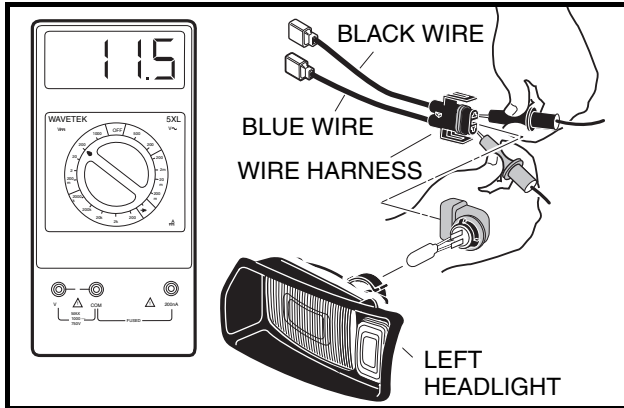

Figure 11-45 Check Voltage to Headlight Socket
3. Remove the wire harness from the headlight (**Figure 11-45, Page 11-41**).